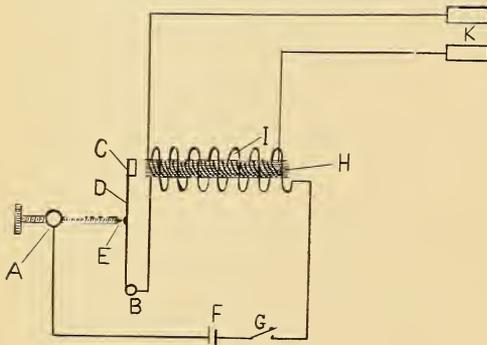
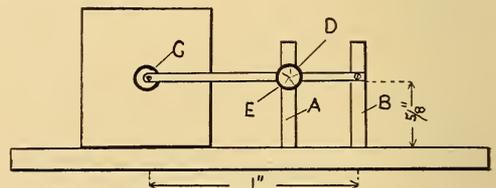

FIG. 1.
FIG. 2.
the plan in Fig. 1. Here we have a view of the coil with the primary and secondary shown. When the key at (G) is closed the battery current flows around the core (H), through the two layers of primary wire. In flowing around this core the current changes it into a state of magnetism, and it will in this state attract iron objects such as tacks, etc. This fact is taken advantage of and a small iron disk (C) is pivoted right behind the core by a small brass spring (D) which is screwed fast to a binding post (B).
For the actual construction, the parts given below are required. A brass binding post shown at (A), Fig. 1 is required. This is one inch in height with holes threaded through the center  $\frac{5}{8}$ -inch from the bottom. The soft iron disk (C) may be either round or square and  $\frac{1}{4}$ -inch in diameter  $\frac{3}{16}$ -inch thick. This disk is soldered or screwed to a
strip of thin spring brass  $\frac{1}{8}$ -inch wide and one inch long. Through the opposite end of the strip a hole is drilled and the strip is screwed to the post (B) at the screw hole  $\frac{5}{8}$ -inch from the bottom. A small piece of the platinum wire is hammered flat and soldered in the middle of the brass spring, this is shown at (E), Fig. 1. Through the binding post, a large thumb screw is run. In the end of this screw is placed a small platinum contact which touches the platinum on the brass spring. The vibrator is now ready to be mounted which is done according to the plan as given in Fig. 2.